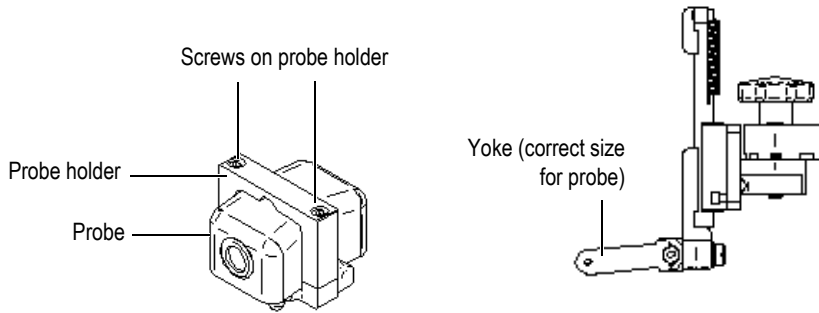

Figure 2-1 The yoke and the probe holder
- a) Install the yoke that is correctly sized for the probe and probe holder you are using (see Figure 2-1 on page 30).